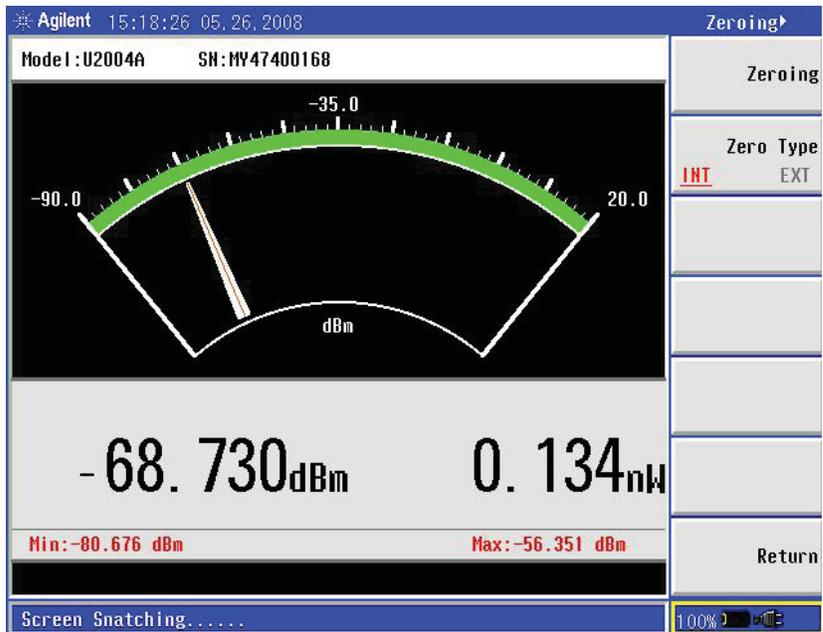

Figure 15 External and Internal Zeroing are performed to reduce the zero offset and noise impact in order to measure power accurately
3. Press {Zeroing ►} to perform the Internal or External Zeroing if necessary (see Figure 15).